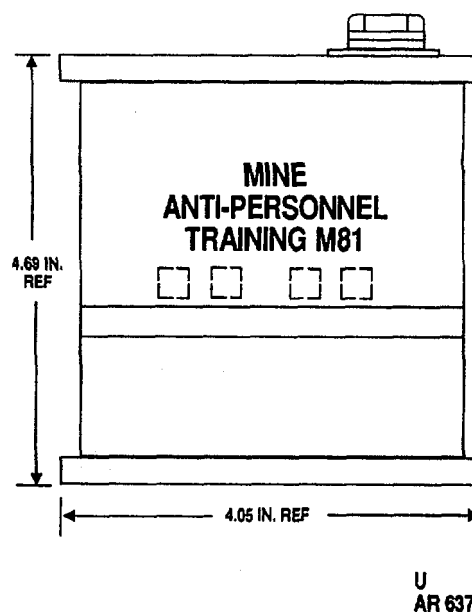

Figure 1-3. Mine, antipersonnel, training: M81.
(2) The M81 training mine (fig. 1-3) is used for training and handling only. It has the same configuration as the M16A2 AP Mine, contains no explosive components and uses the M605 inert fuze.